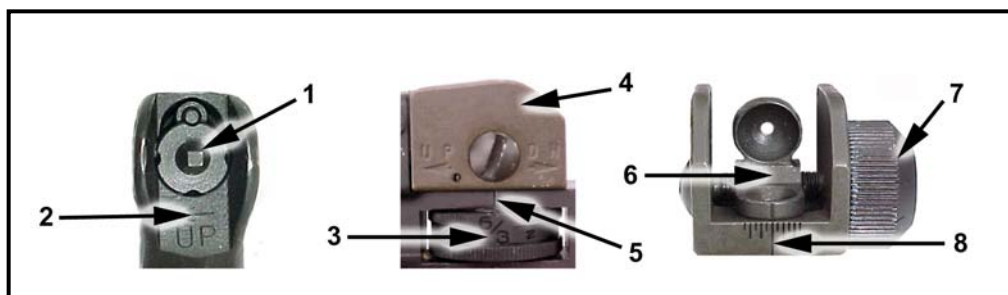

Figure 2-12. M4/M4A1 and M4 MWS mechanical zero.
(1) ***Mechanically Zeroing the M4/M4A1 and M4 MWS.*** Mechanically zeroing the weapon is only necessary when the weapon zero is questionable, the weapon is newly assigned to the unit, or the weapon sights have been serviced. If necessary, the soldier should mechanically zero the weapon as follows (Figure 2-12, page 2-8):